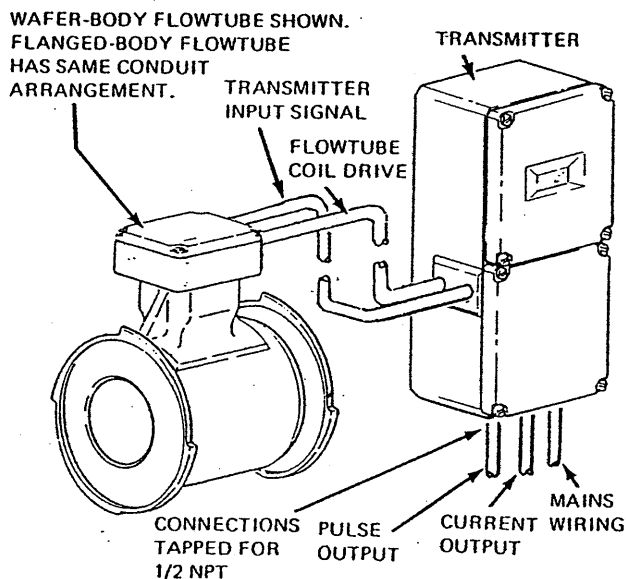
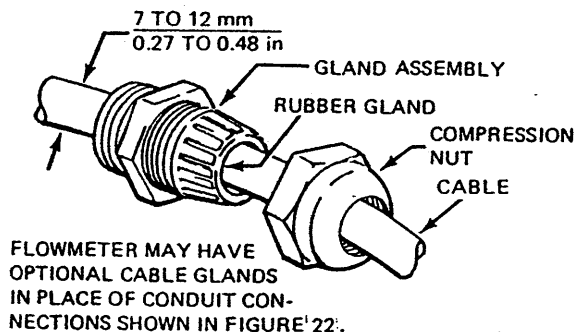
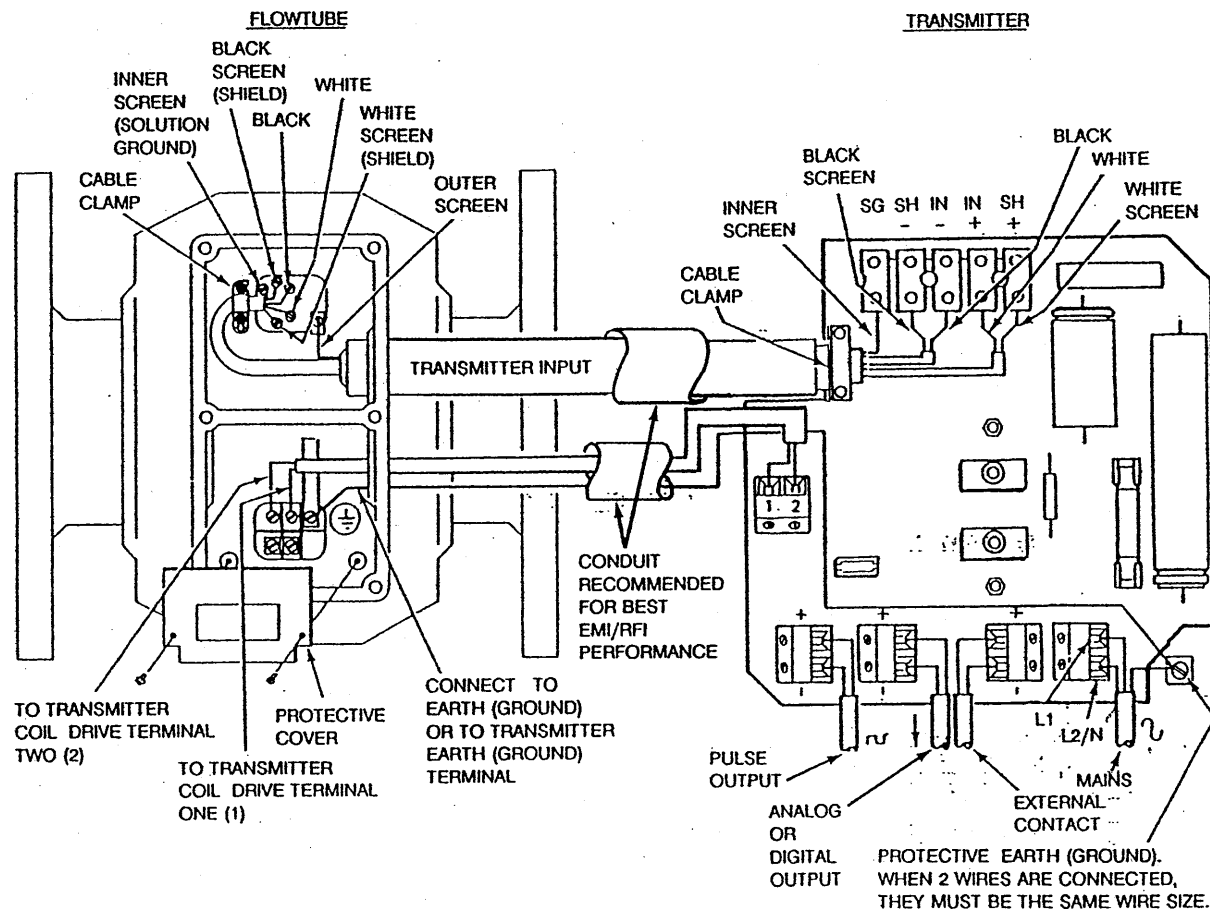
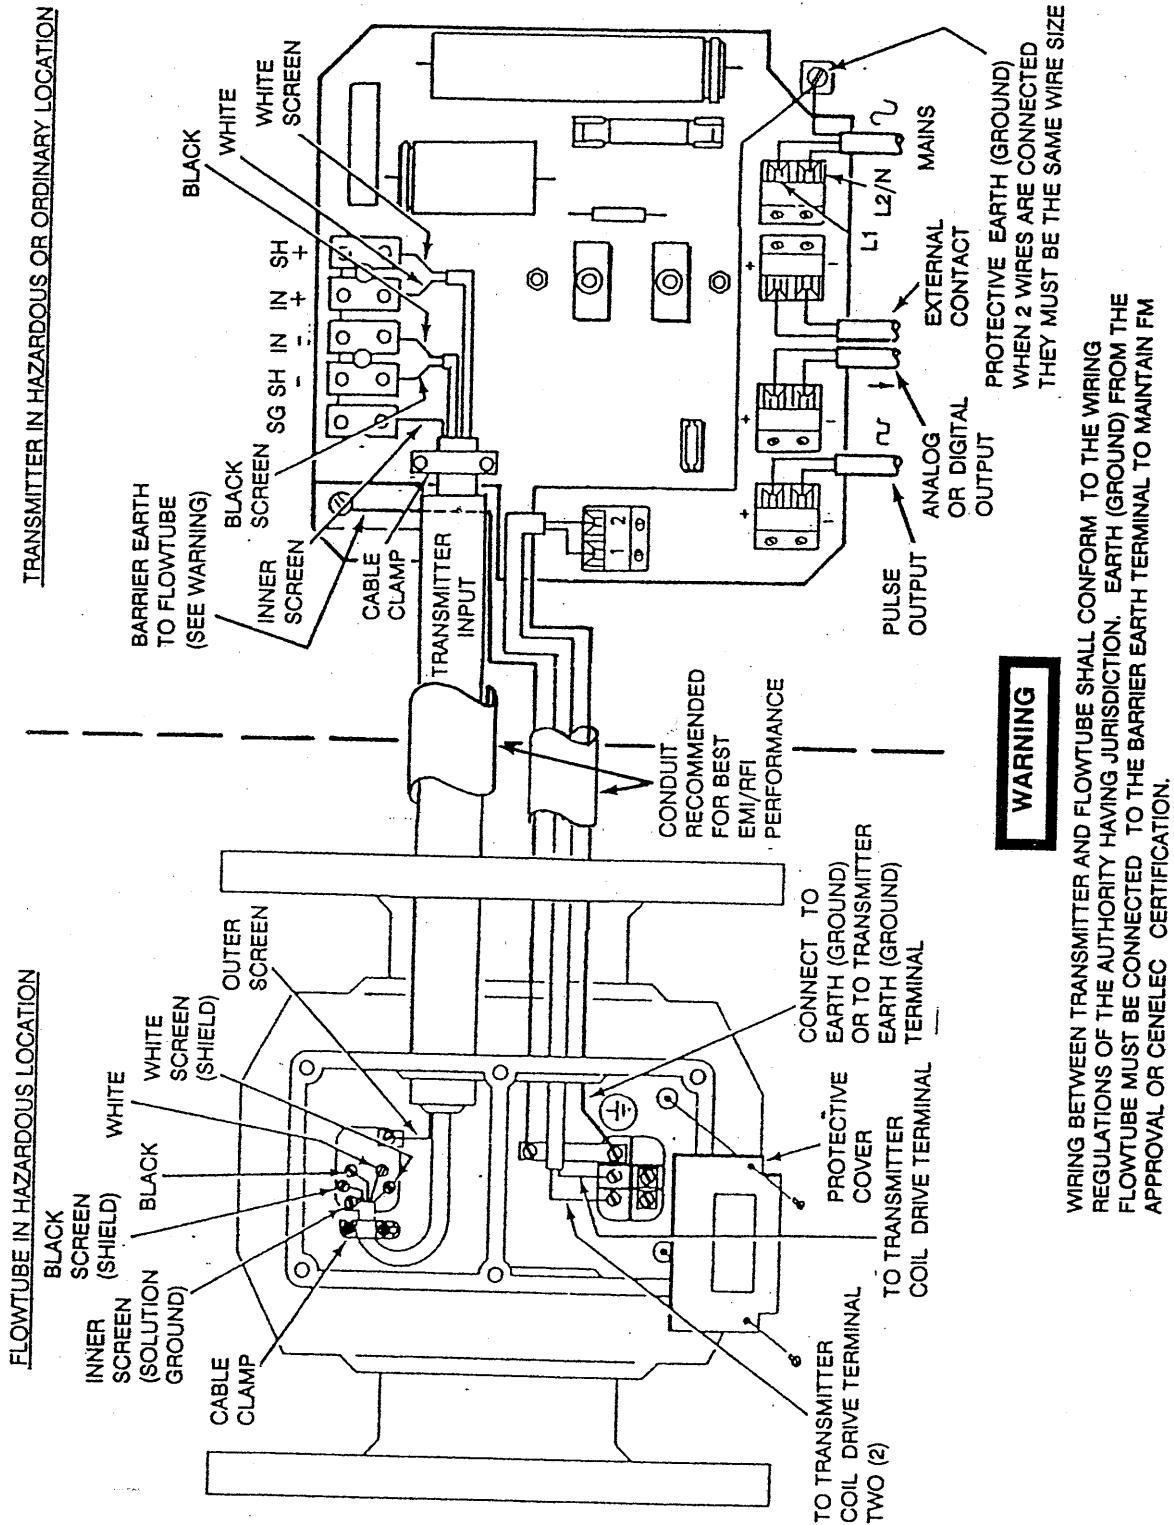

Figure 22. Conduit Connections
Figure 23. Optional Cable Glands
Figure 36. Flowmeter Wiring with Flanged-Body Flowtube for use in General Purpose/Ordinary Locations
Figure 38. Flowtube Wiring with Flanged-Body Flowtube for use in Hazardous Locations
Wire entrances to the transmitter and the flowtube are either tapped for 1/2 inch conduit or provided with optional cable glands (flanged flowtubes have 3/4 in tapped conduit holes). If using conduit, connect it to transmitter and flowtube as shown in Figure 22. Separate conduit runs are recommended for input signal, output signal, ac supply, and flowtube coil drive wires. Optional cable glands are for use with cables having a thickness between 7 and 12 mm (0.27 and 0.48 in) as shown in Figure 22. Use of cable glands is described when applicable in following sections.
If conduit is being used for input-signal cable, run cable through conduit shown in Figure 22.
If transmitter and flowtube are equipped with optional cable glands, run and dress input-signal cable from flowtube to transmitter. Insert cable through cable gland at flowtube and/or transmitter as applicable. Cable glands are shown in Figure 23. Use same wire entrances to flowtube and transmitter as indicated in Figure 22 for conduit connections.
1. Run current-output signal, external contact (if used), pulse-output signal, ac-supply, flowtube coil-drive, and earth (ground) wires through conduit or optional cable glands, as shown in Figure 33. Conduit connections are shown in Figure 22.
3. If flowtube has optional cable glands, turn compression nut (shown in Figure 23) until rubber gland is snug around input-signal cable.
8. If transmitter has optional cable glands, turn compression nut (shown in Figure 23) until rubber gland is snug around input-signal cable.
1. Run current-output signal, external contact (if used), pulse-output signal, ac-supply, flowtube coil-drive, and earth (ground) wires through conduit or optional cable glands, as shown in Figure 36. If flowmeter is certified for use in hazardous locations, run barrier earth wire through same conduit (or glands) as signal cable wires. Wires are shown in Figure 38. Conduit connections are shown in Figure 22; optional cable gland is shown in Figure 23.
2. See Figure 36 or Figure 38. Connect input-signal wires to flowtube output terminals as shown.
3. In flowtube, clamp transmitter input cable over its inner jacket with cable clamp as shown in Figure 36 or Figure 38.
5. Remove protective cover (shown in Figure 36 or Figure 38) from coil-drive terminals.
6. If "direction-of-flow" arrow on flowtube is pointing downstream, connect coil-drive wires to flowtube terminals as shown in Figure 36 or Figure 38. If arrow is pointing upstream, reverse white and black coil-drive wires.
8. Reinstall protective cover (Figures 36 or 38) over flowtube coil-drive terminals.
10. Connect input-signal wires from flowtube to transmitter input terminals as shown in Figure 36 or Figure 38. Clamp cable over its inner jacket as shown.
12. Connect current-output, external contact, and pulse-output wires to transmitter terminals as shown in Figures 36 or 38. Tighten optional gland compression nuts if applicable. For details of connecting output-signal, coil-drive, and mains wires to transmitter, see "General Procedure for Connecting Wires to Compression Type Terminals" section. For external wiring of pulse-output and current-output wires, see Figure 34.
14. Connect coil-drive, mains and earth (ground) wires to transmitter terminals as shown in Figure 36 or Figure 38. Ensure that earth wires are connected as shown. Tighten optional gland compression nuts if applicable.
If a negative flow or "-A" is read on display during process flow, direction of flow does not correspond with coil-drive wiring. Reverse flow or wiring may be confirmed by momentarily depressing the "SET" pushbutton and observing the display or output for indication of flow. Disconnect flowmeter power and reverse coil-drive wires inside transmitter or flowtube. Wires are shown in Figure 36 or Figure 38.